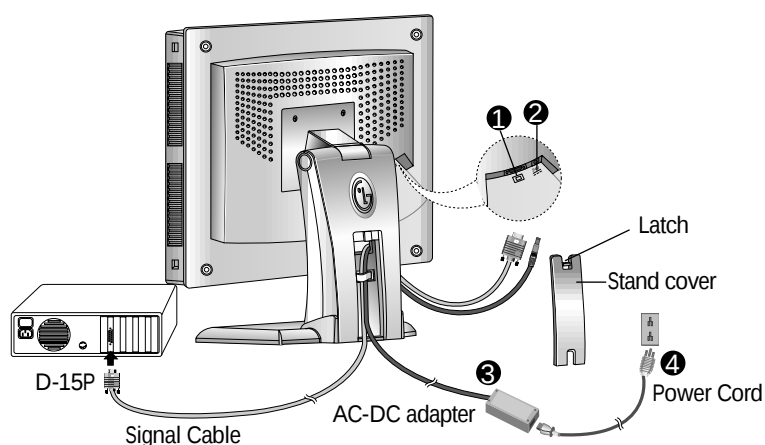

Figure 1.
4. Connect the end of monitor signal cable to the connector ❶ at the rear panel of your monitor through the slot and cable holder on Stand (see Figure 1). Connect the other end to the 15-pin connector on the rear panel of the computer and tighten the screws. Be sure the signal cable aligns with the 15-pin connector.
5. Connect the plug from the AC-DC adapter into the connector on the display unit. ❷ Connect one end of the AC power cord into the AC-DC adapter ❸ Plug the other end into a properly grounded three-prong AC outlet. ❹
4. Connect the end of monitor signal cable to the connector ❶ at the rear panel of your monitor through the slot and cable holder on Stand (see Figure 1). Connect the other end of the monitor signal cable to the rear panel of Macintosh computer through a Macintosh adapter and then tighten screws.